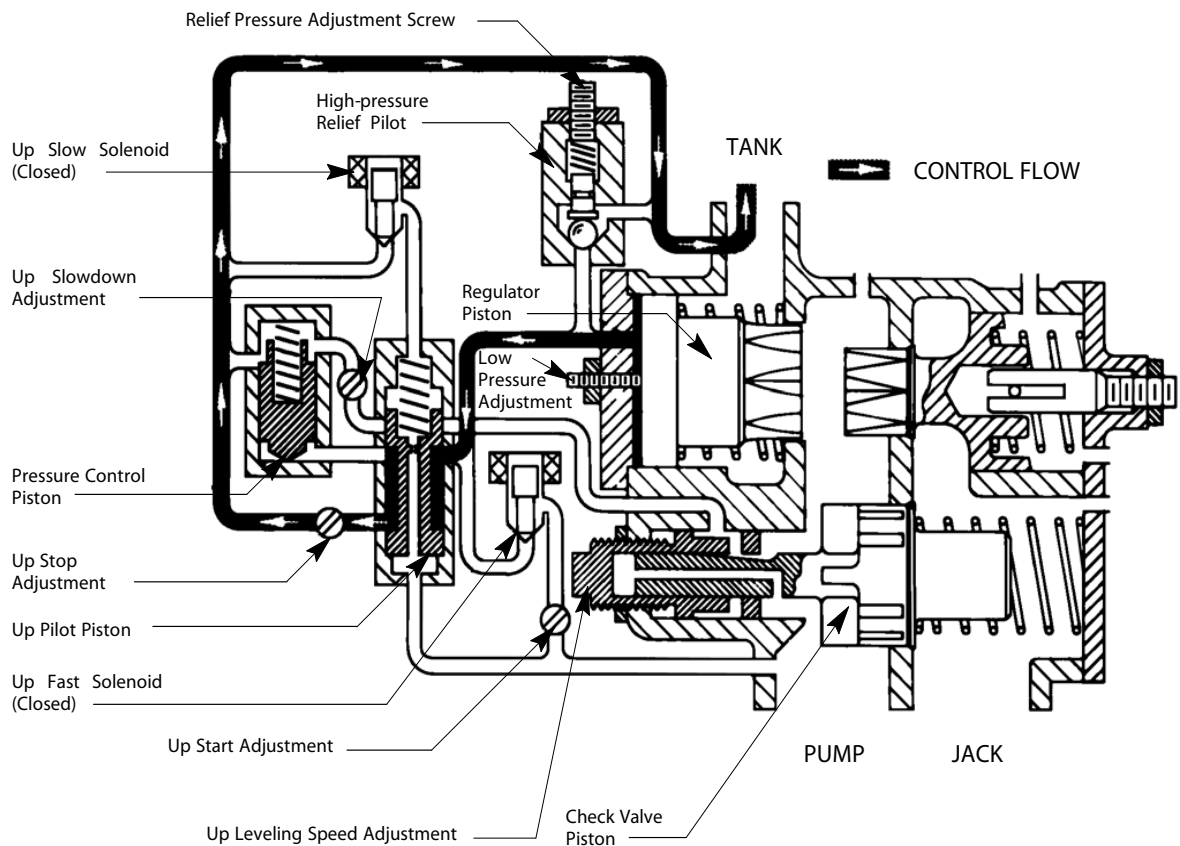

Figure 10 - Up Stop Diagram
1. The up slow solenoid is de-energized, to stop the car. The pump is kept running slightly longer on a timed delay to provide a valve stop instead of a pump stop. See Figure 10.